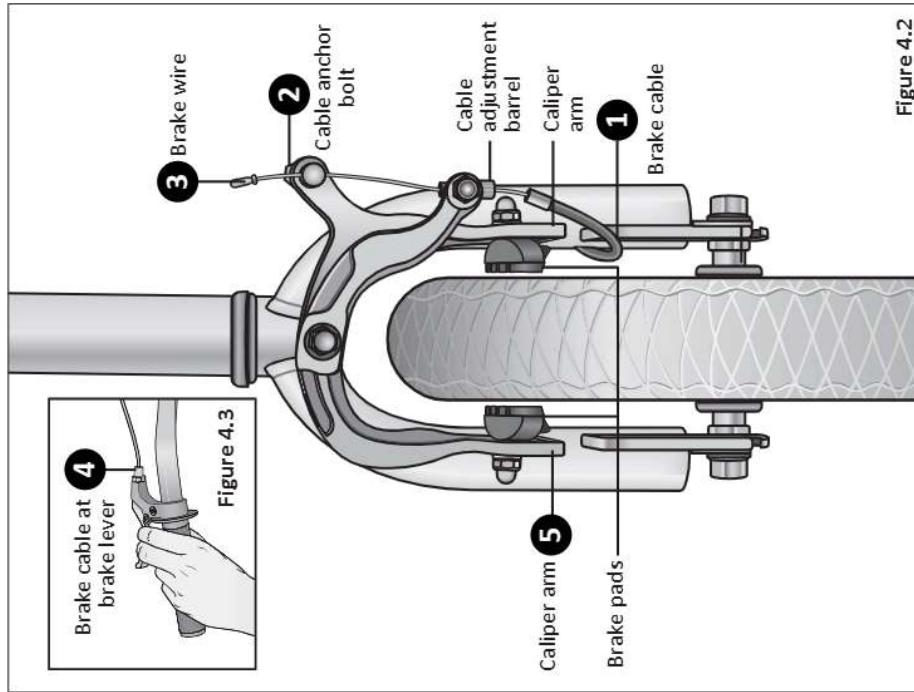

Figure 4.2
- 1** If the brake cable is disconnected at the caliper, thread the brake wire through the adjustment barrel. **Figure 4.2**
- 5** With one hand squeeze the caliper arms until both brake pads contact the rim. Loosen the cable anchor bolt just enough to allow the brake wire to move freely. **Figure 4.2**